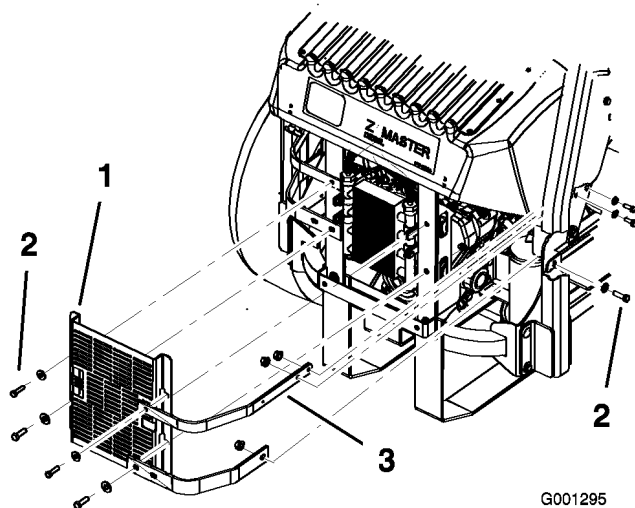

Figure 60
3. Remove the 4 bolts holding the oil cooler shield to the rear frame (Figure 60).
4. Remove the 3 bolts holding the engine straps to the side of the machine (Figure 60).
12. Install the oil cooler shield and engine straps to the rear frame with the 4 bolts previously removed (Figure 60).
13. Install the engine straps to the side of the machine (Figure 60).